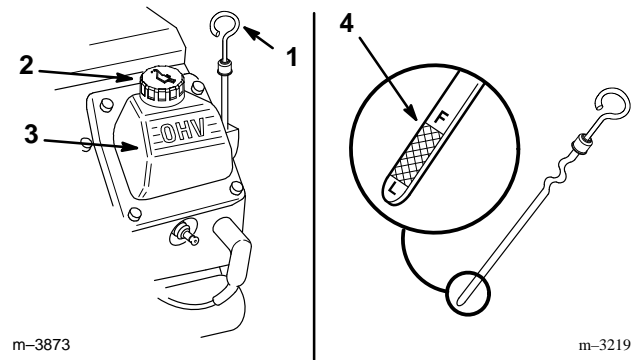

Figure 7
3. Clean around the oil dipstick (Fig. 7).
4. Pull out the dipstick and wipe the metal end clean (Fig. 7).
5. Slide the dipstick fully into the dipstick tube (Fig. 7).
7. If the oil level is low, clean around the oil filler cap and remove the cap (Fig. 7).